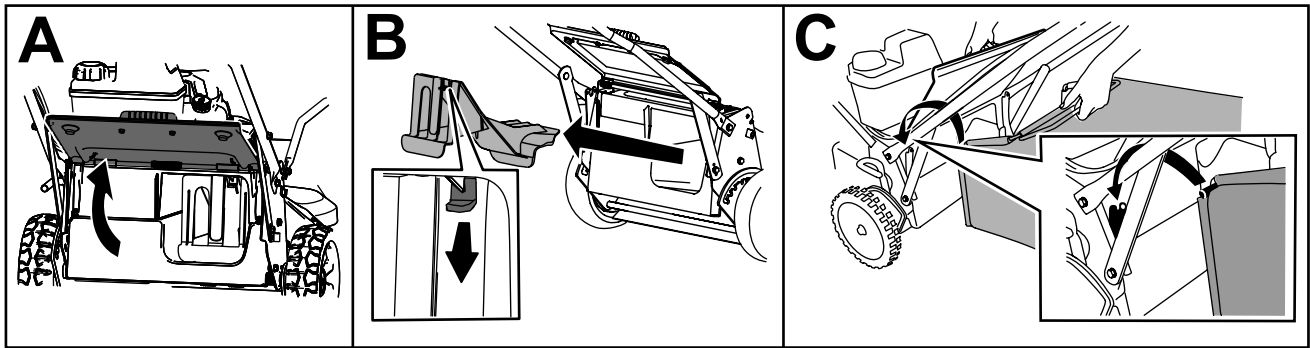

Figure 18
1. Raise and hold up the rear deflector (A of Figure 18).
2. Remove the rear-discharge plug by pulling down on the latch with your thumb and pulling the plug out from the machine (B of Figure 18).
3. Install the bag rod into the notches at the base of the handle, and rock the bag back and forth to ensure that the rod is seated at the bottom of both notches (C of Figure 18).